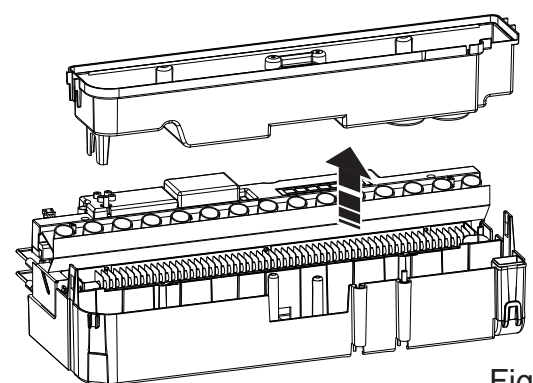

Fig.13
8. Lift out the transducer and carefully tilt, as shown, so that the liquid drains out of the sump. (Fig.13)